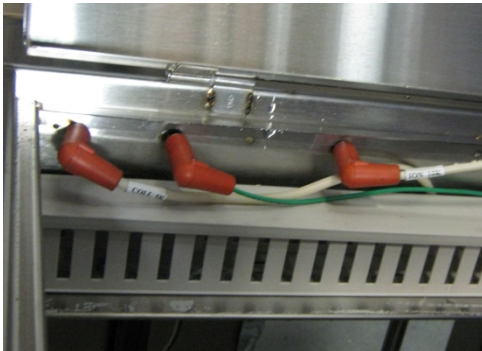

Figure 4-7-1
9. If there is no voltage from the tests as described in a) through d) above pull off the lead wires from the Cell, and to keep the wires out of the way, slide them onto the Receiving Studs located above the Cell (Refer to Figure 4-7-1)..